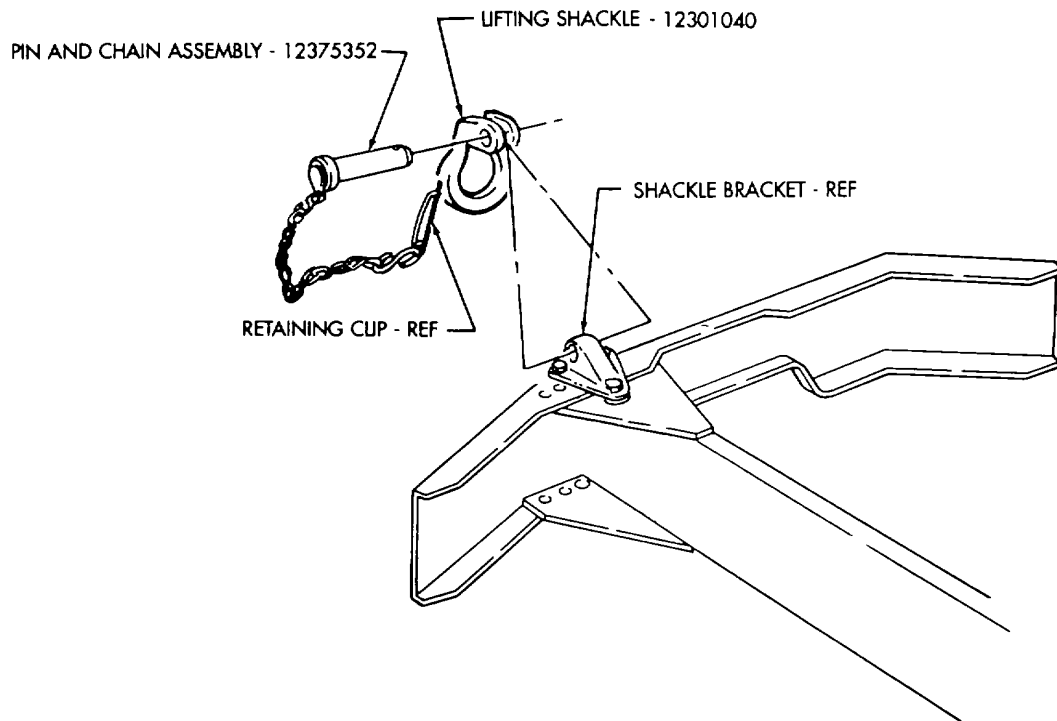

FIGURE 2
- (1) Install 12301040 lifting shackle on shackle bracket with 12375352 pin and chain assembly as shown in figure 2
- (2) Install retaining clip through hole in pin as shown in figure 2